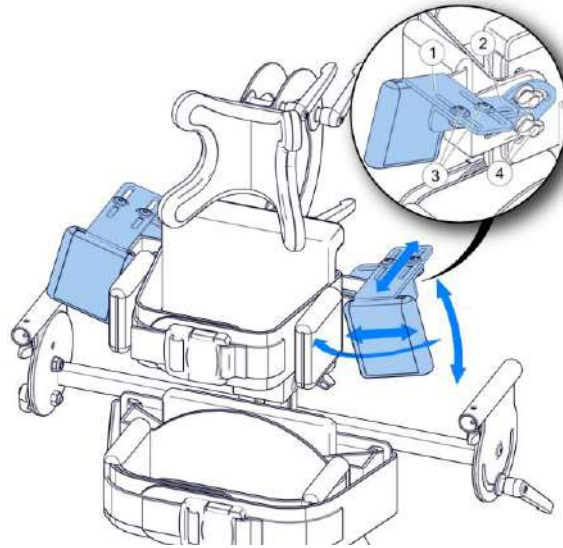

Figure 24
8.4. Shoulder protectors – Figure 24